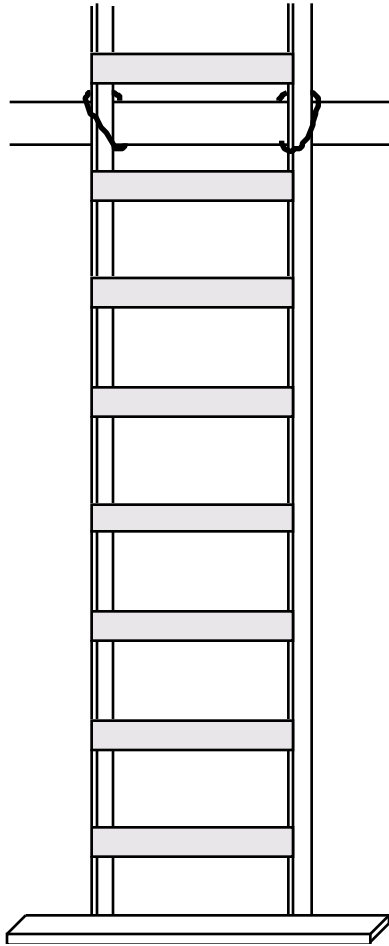

Figure 2. Tied off ladder
- On solid wood decks and landings, nail down a cleat to keep the base of the ladder from sliding. (See Figure 2 on page 3.)
- Tie off all ladders, but particularly those being used on slippery surfaces (e.g., metal sheet or plate decking; oil, grease, ice, or water on the surface), or when the support is soft or flexible (e.g., earth, planking, plywood). This can be done by securing the ladder near the top with rope or wire ties. (See Figure 2 on page 3.)